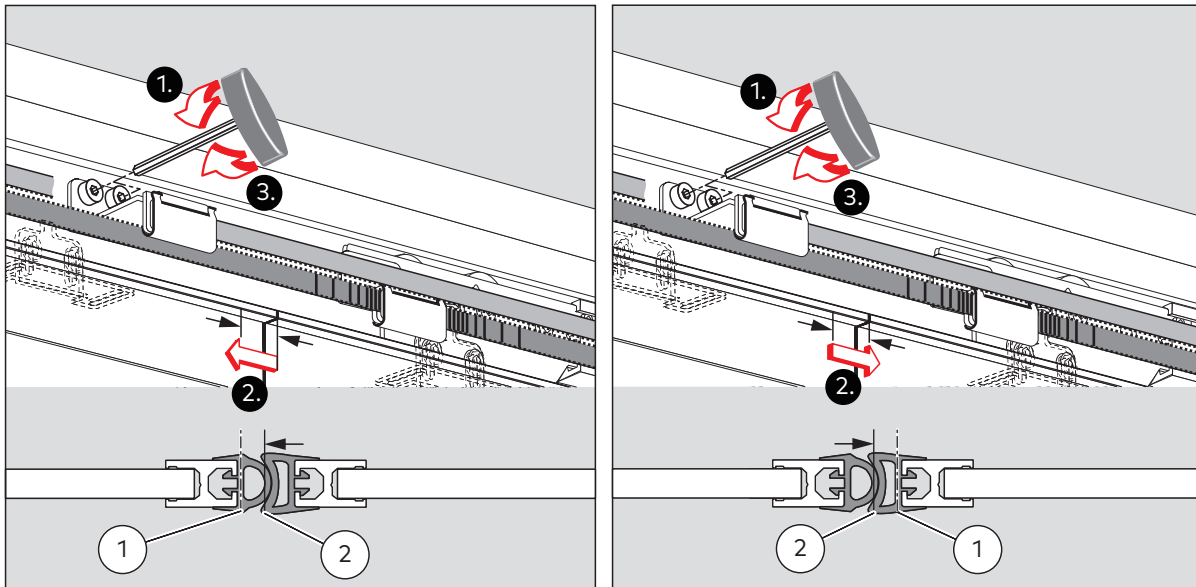

Fig. 90 Adjusting the main closing edge
2. Move both door leaves manually until the main closing edge (Fig. 90/1) matches the center point of the door (Fig. 90/2).